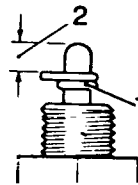

Fig K1.22
- (1) Refer to Fig K1.22. If the plunger spring (1) is dislodged, refit with the small coil of the spring toward the switch unit threads.
- (2) Position the plunger spring 4 mm approximately from the plunger end (2).